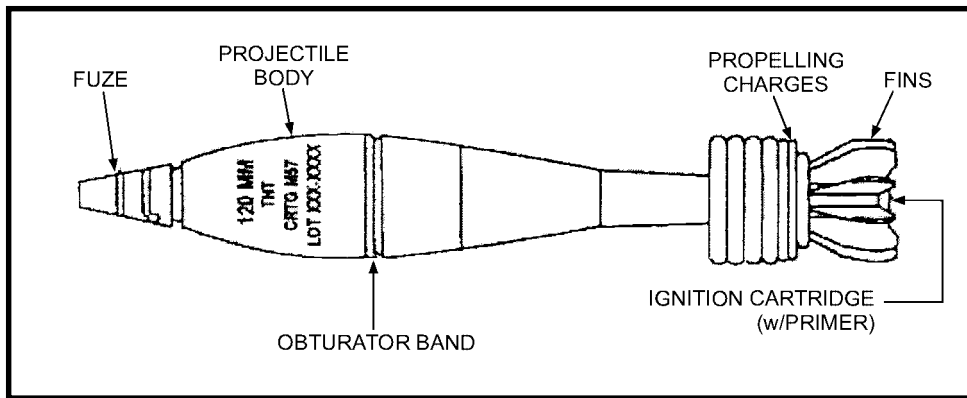

Figure 7-9. M57 HE cartridge.
- a. **M57 HE Cartridge (NDI)** (Figure 7-9).
- (1) Type and use: High explosive fragmentation and blast.
- (2) Identification: Olive drab with yellow markings.
- (3) Components: M935 point detonating (PD) fuze.
- (4) Maximum range: 6,300 meters at charge 8; 7,200 meters at charge 10.
- (5) Remarks: Used against personnel (in open or in bunkers), light vehicles, and light bunkers; weight to 20 pounds (13.18 kilograms).